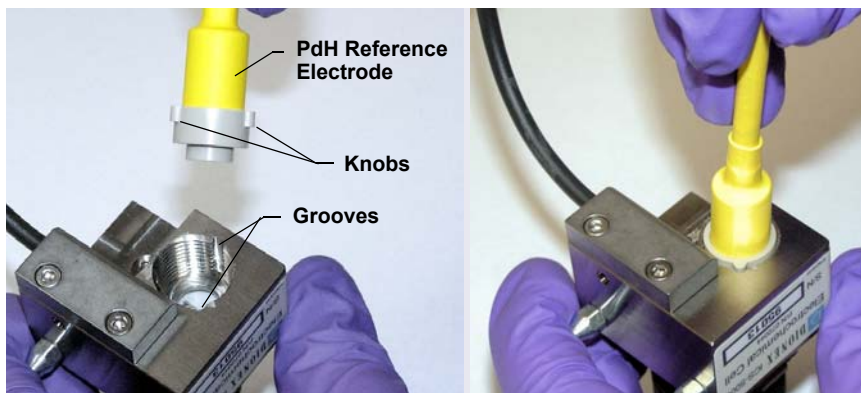

Figure 9-71. Inserting the PdH Reference Electrode Fitting into the Reference Electrode Well
8. Align the fitting on the end of the PdH reference electrode so that the knobs on the fitting align with the grooves in the reference electrode well (see Figure 9-71).